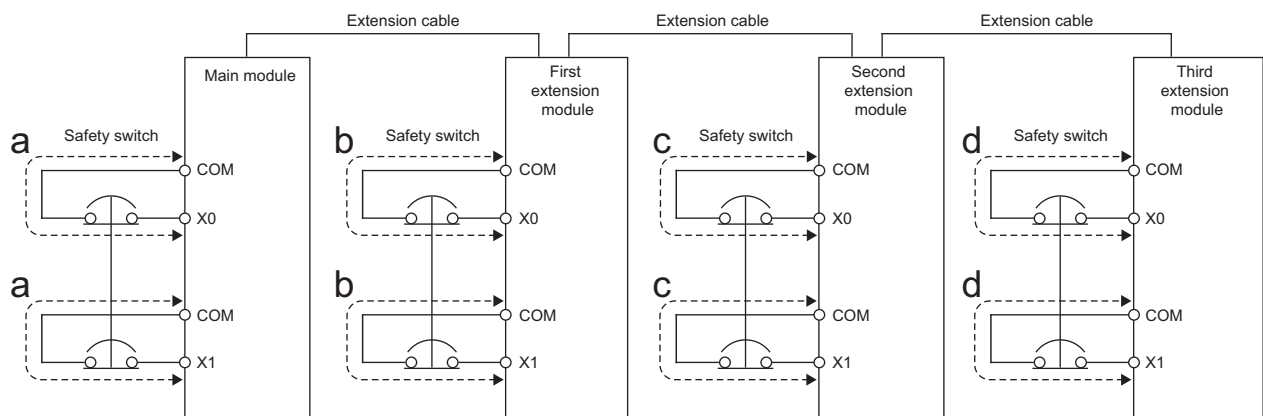

Figure 5.13 System configuration and external wiring diagram
- * 2: Each wire length (a, b, c, and d) corresponds to the same alphabets shown in Figure 5.13.